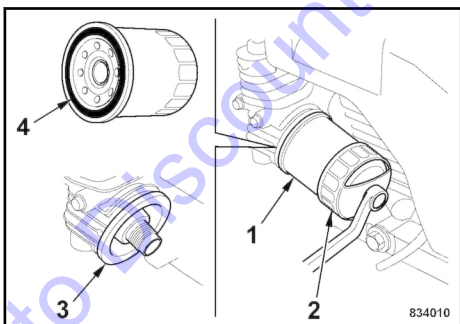

Fig. 171
1. Unscrew the filter cartridge (1) ↪ Fig. 171 using an appropriate tool (2).
2. Clean the sealing face on the filter carrier (3) from any dirt.
3. Slightly oil the rubber seal (4) on the new filter cartridge.